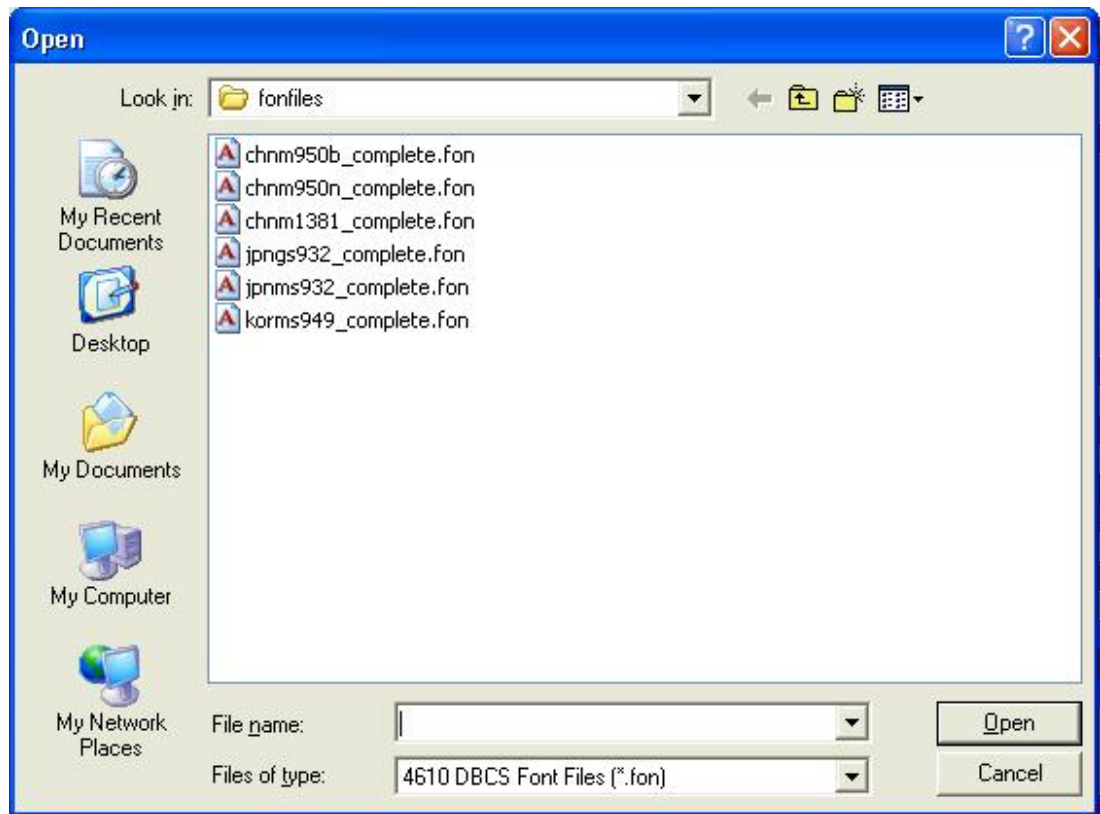

Figure 55. Select DBCS Font File for Customer receipt station
5. Browse to the file location, select, and click to open and download to the printer. See Figure 55.